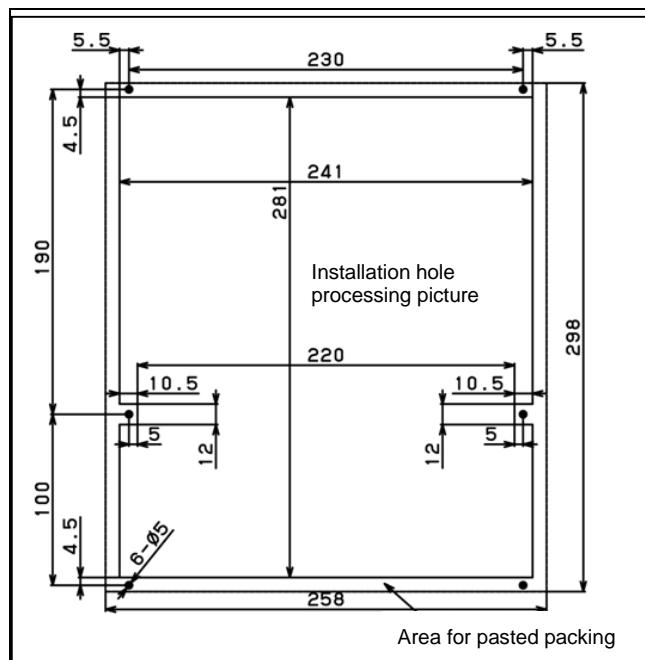

Fig. U2 8.4" LCD/MDI unit(Vertical)
8.4" LCD/MDI unit(Vertical)	Fig. U2